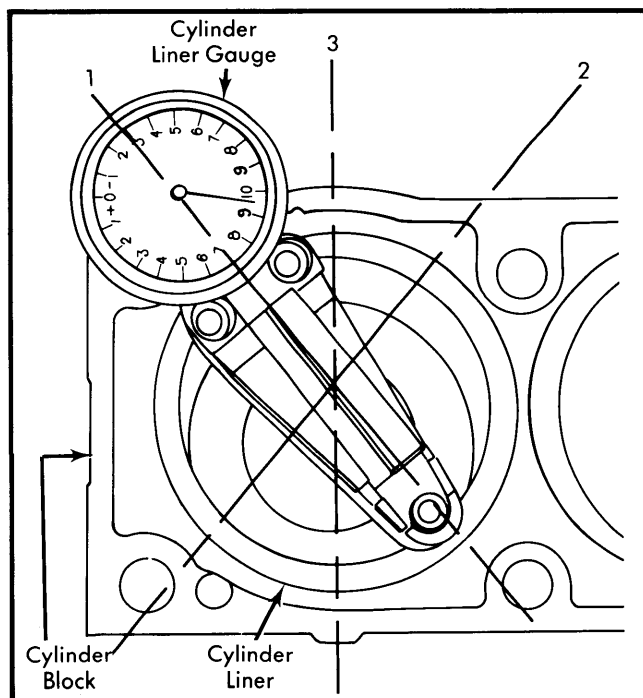

Fig. 6 Measuring Height of New Cylinder Liners
2) Measure liner height by inserting spring loaded guide pins of gauge into liner so machined pads rest on edge of liner and indicator pointer of gauge touches cylinder head mating surface of cylinder block. See Fig. 6. Apply moderate pressure to gauge until pointer stops moving.
4) Repeat steps 2) and 3) at locations shown in Fig. 6 and record readings. Determine actual liner height by calculating average of all 3 readings (add readings and divide sum by 3).